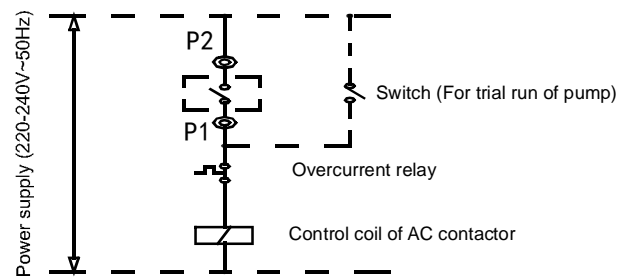

Fig.5-3
Step 11. Connection of control wires of pump: the control wires of AC contactor of the pump must pass the connection terminals P1 and P2 of the main unit, as shown in Fig. 5-3.